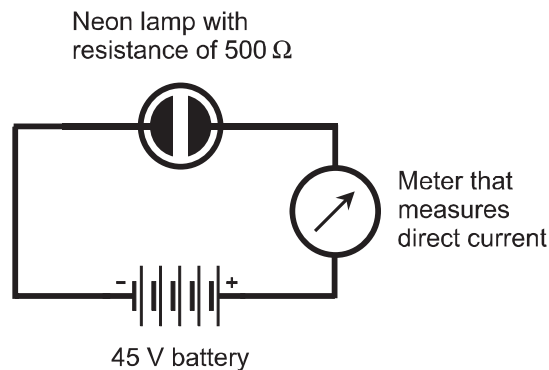

Fig. Test1-2. Illustration for Part One Test Questions 14 through 18.
14. In the circuit shown by Fig. Test1-2, suppose the battery consists of 1.5 V zinc-carbon cells in series. How many cells are there in this battery?
15. In the circuit shown by Fig. Test1-2, what does the meter read, assuming it is calibrated properly and is of the correct range to give a meaningful reading of the DC in this circuit?
16. Suppose several more neon lamps, all identical to the one there now, are connected in parallel with the battery in the circuit of Fig. Test1-2. What will happen to the current drawn from the battery?
17. How much power is dissipated by the neon lamp in the circuit of Fig. Test1-2?
18. How much energy is dissipated by the neon lamp in the circuit of Fig. Test1-2?